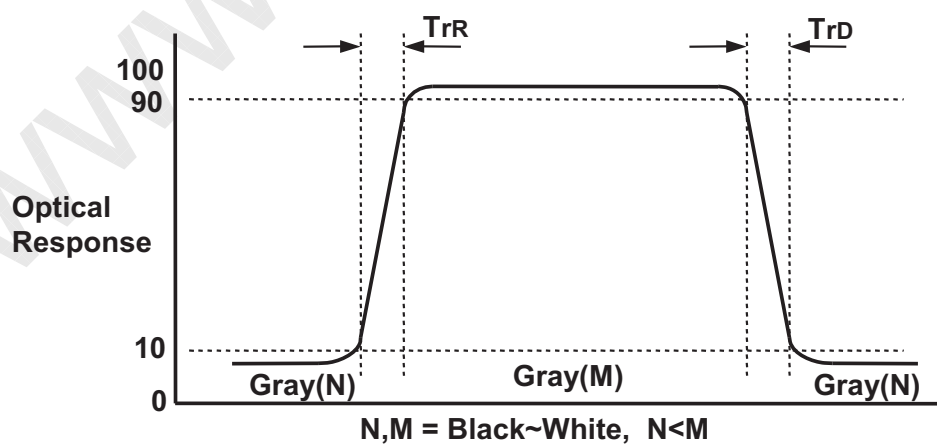

FIG. 3 Response Time
2. Response time is the time required for the display to transit from Gray(N) to Gray(M) (Rise Time,  $Tr_R$ ) and from Gray(M) to Gray(N) (Decay time,  $Tr_D$ ). For additional information see the FIG. 3.